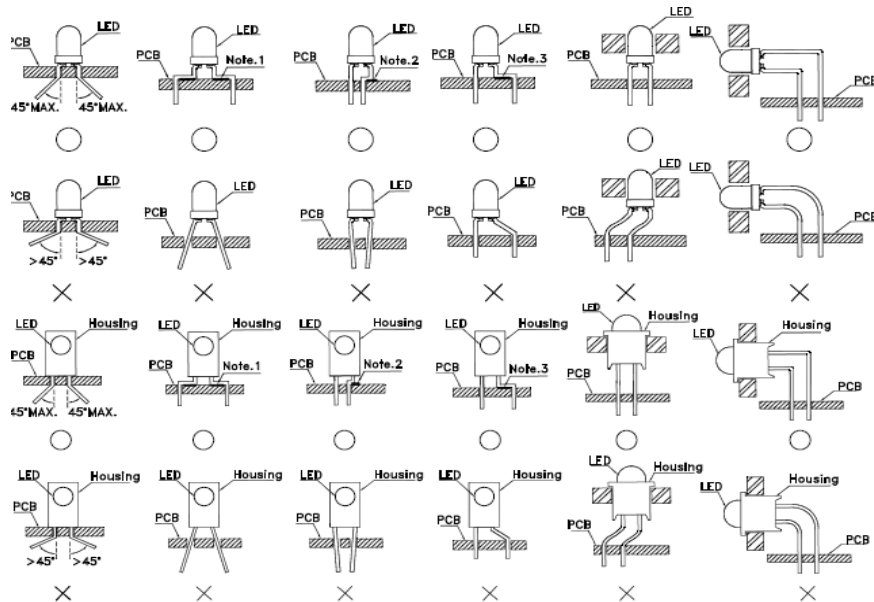

Fig.1
1. The lead pitch of the LED must match the pitch of the mounting holes on the PCB during component placement. Lead-forming may be required to insure the lead pitch matches the hole pitch. Refer to the figure below for proper lead forming procedures.(Fig. 1)